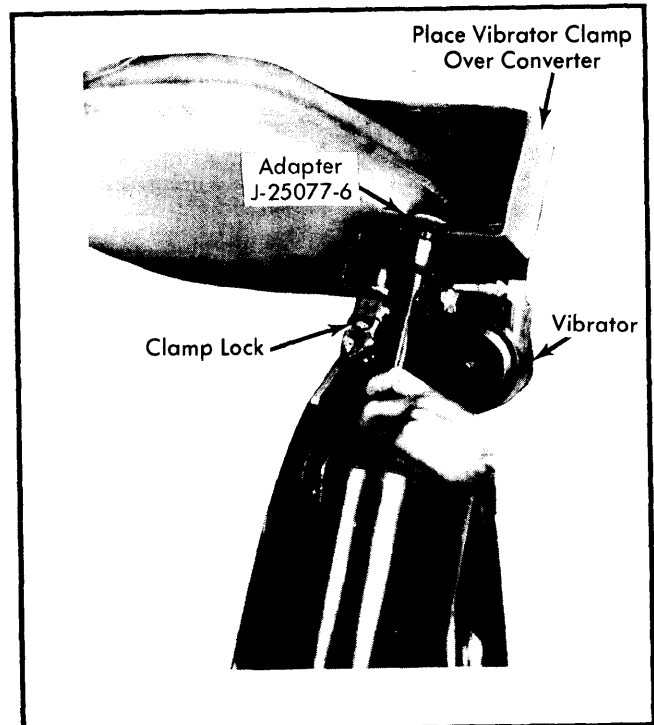

Fig. 5 Placement of Vibrator & Catalyst Container Jeep Vehicles Only.
3) Clamp on vibrator and catalyst receptacle as shown in Fig. 5. Disconnect air supply from vacuum aspirator and attach it to vibrator unit.